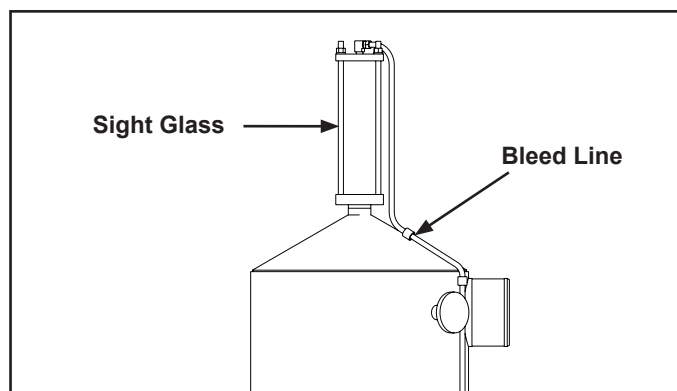

Figure 3.1: Sight Glass and Bleed Line
2. Assemble the sight glass / gas collector and gas bleed line as shown in Figure 3.1. Thread the bleed line through the eyelets on the cooling column.